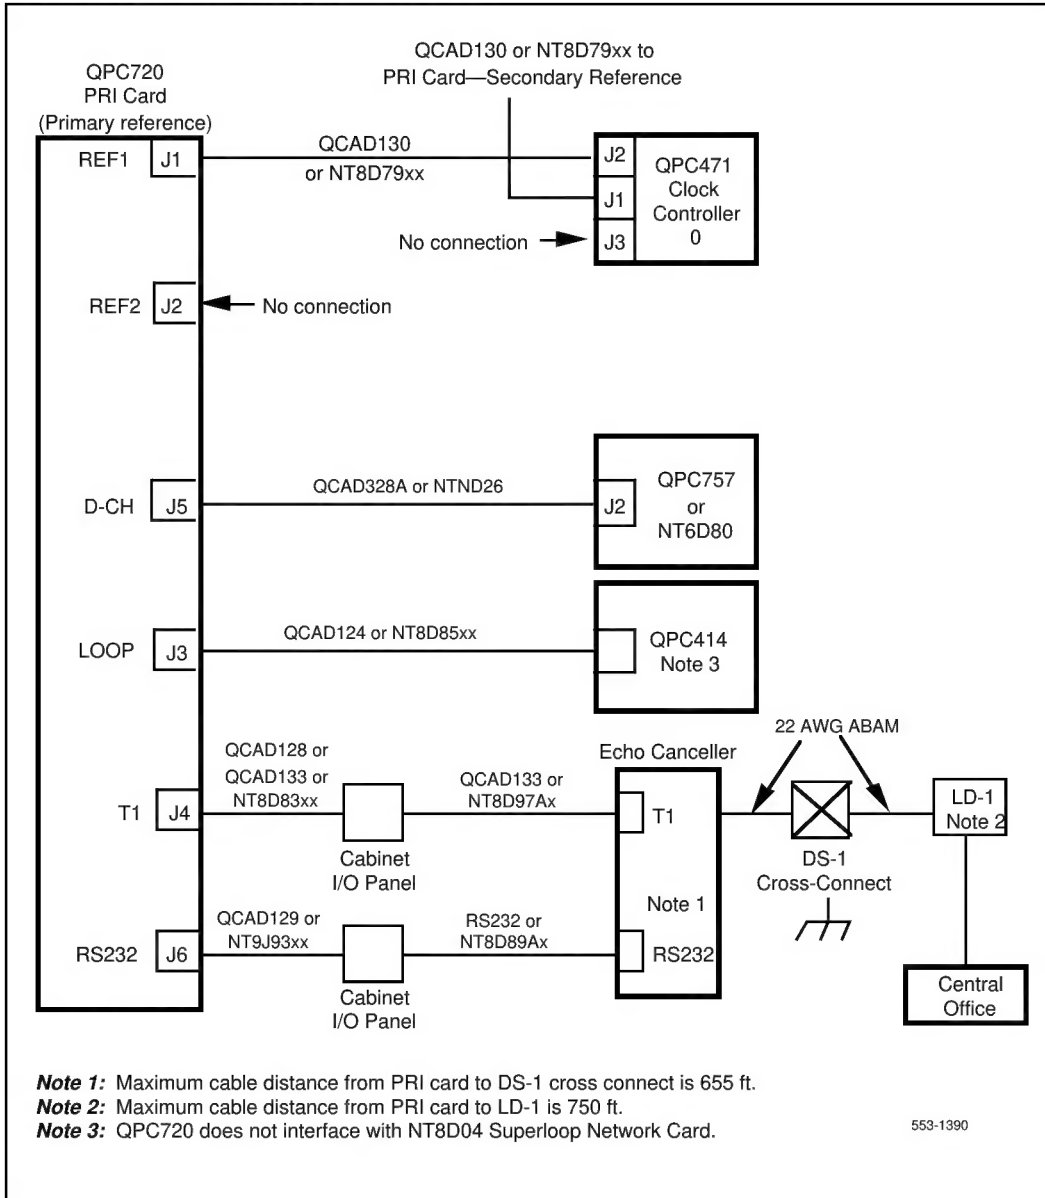

Figure 15
- 7 Run and connect the PRI cables. See Figures 13 and 14. Figures 15 and 16 show the NT, 51/51C, 61/61C PRI cabling. Refer also to Table 13.